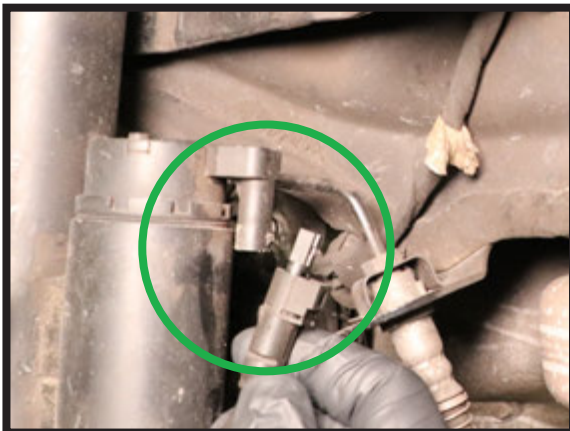

FIGURE 35
9. CONNECT THE TWO (2) ELECTRICAL CONNECTIONS TO THE STRUT. (FIGURES 35, 36)